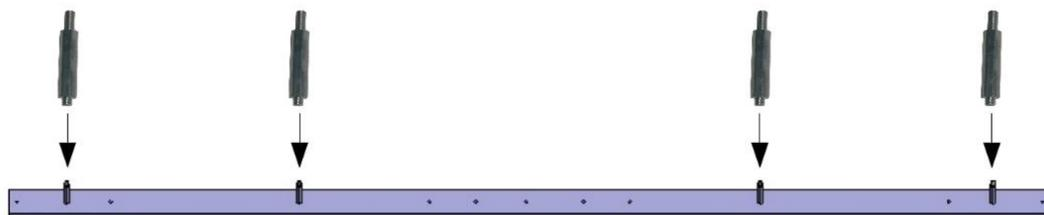

Figure 5 Assembly of U-profiles B
2. Screw in four spacer bolts into the remaining two U-profiles as illustrated in Figure 5. The longer threaded end must point upwards. Tighten the bolts only by hand!